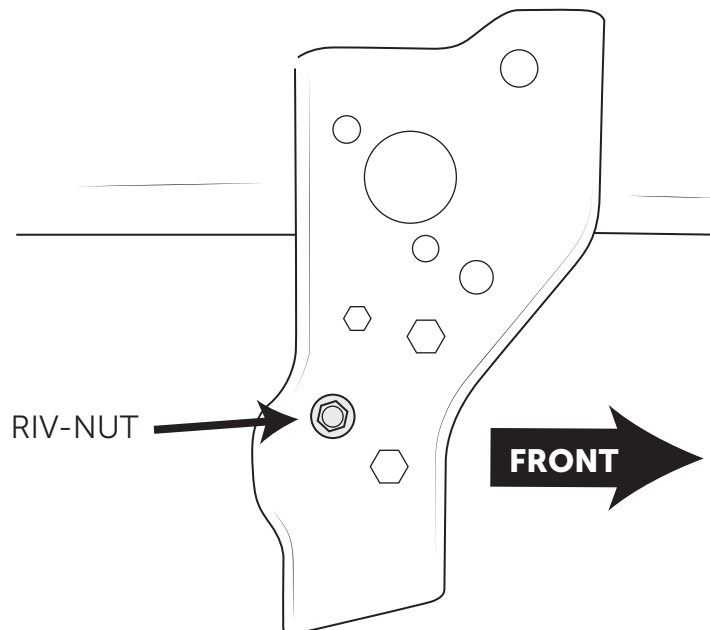

Figure 6
7. Install hex riv-nut using provided tool to hex shaped upper rear hole on outside surface of compatibility beam (fig. 6). To use riv-nut tool, run provided bolt through the washer and coupler, then thread on riv-nut until snug. Flanged end of riv-nut should sit against the coupler. Place riv-nut into desired hole, hold coupler stationary with a wrench, and tighten the bolt to 31 ft-lb. Remove the bolt and coupler to make sure the riv-nut has fully compressed. **NOTE:** Depending on factory bumper configuration, some vehicles may already have riv-nuts in these locations.